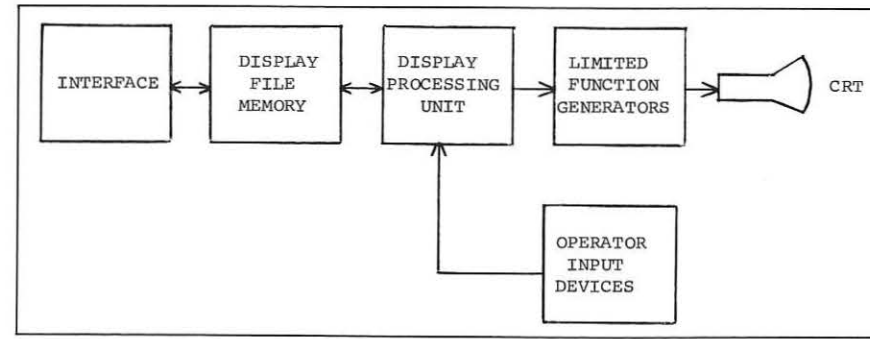

Figure 3. Buffer Refresh/Limited Graphics
- 2. Limited Graphics/Buffer (Figure 3)